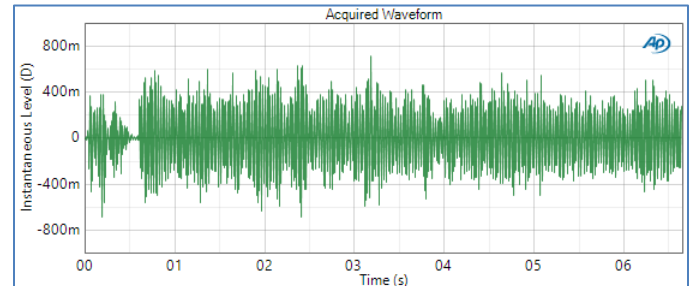

Figure 11. Waveform recorded by smart speaker input system and retrieved from the cloud.
- g. When using a signal such as speech chatter, the smart speaker system will be unable to recognize the speech, and will give up after a few seconds, resulting in a short file. In the example shown here, the recorded audio file was only 7 seconds long (Figure 11). To maximize the use of such a short file, set the Overlap to 75% and the Averages such that the Acq Length indicator is close to the length of the file.